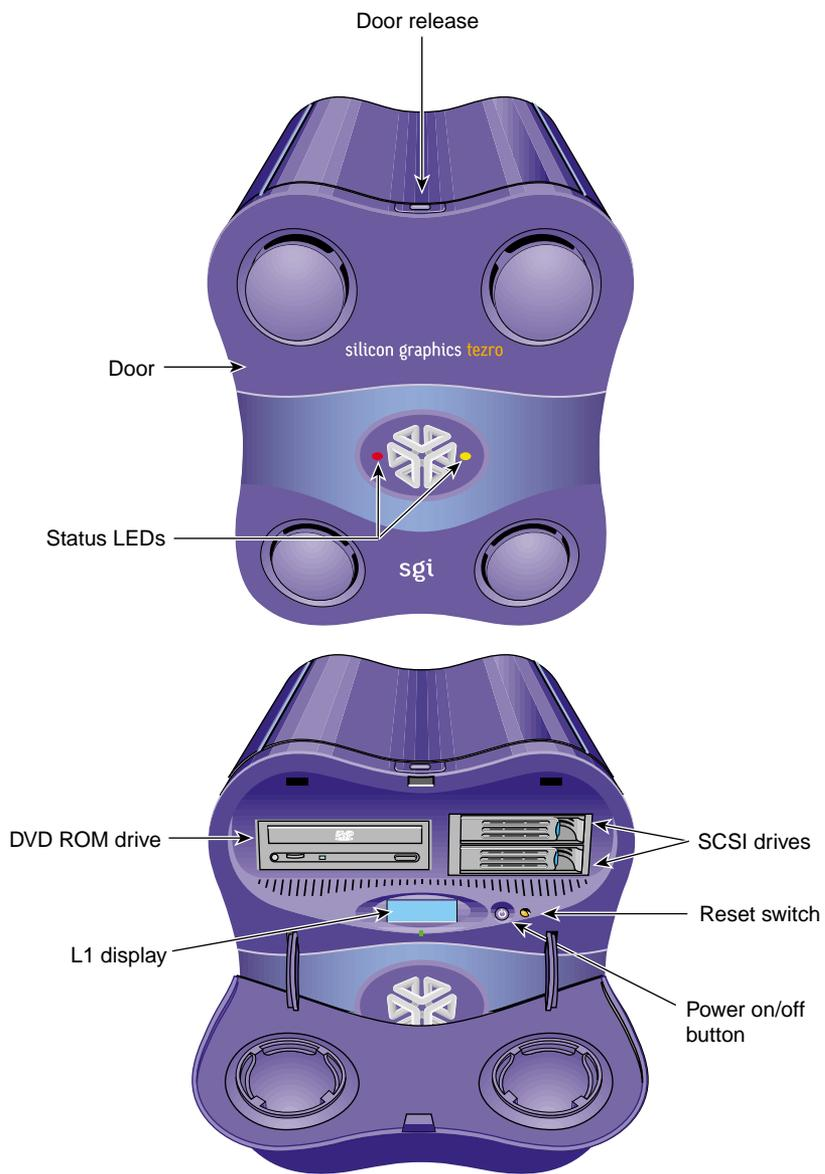

Figure 1-3 Front View of the Workstation
- Figure 1-3, which shows the front view of the workstation.